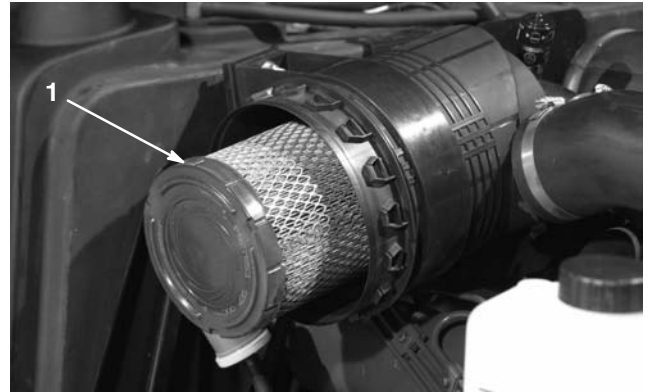
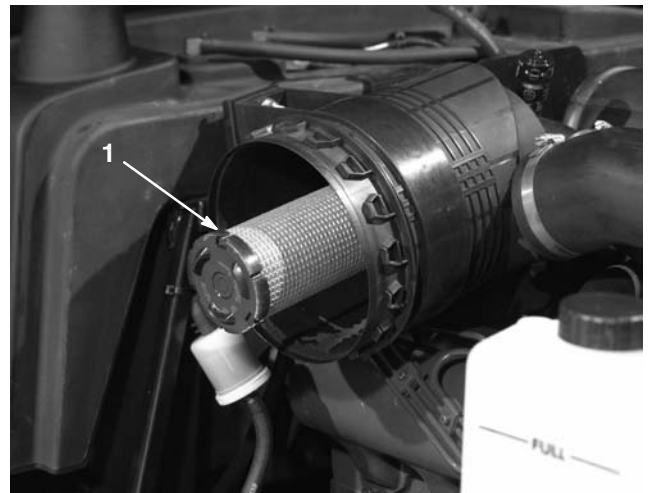

Figure 45
Figure 46
3. Remove the primary filter (Fig. 45). Cleaning of the used element is not recommended due to the possibility of damage to the filter media. Inspect the new filter for shipping damage, checking the sealing end of the filter and the body. Do not use a damaged element. **Do not** remove the safety filter (Fig. 46).
Important Never attempt to clean the safety filter (Fig. 46). Replace the safety filter with a new one after every three primary filter services.
4. Replace the primary filter (Fig. 45).